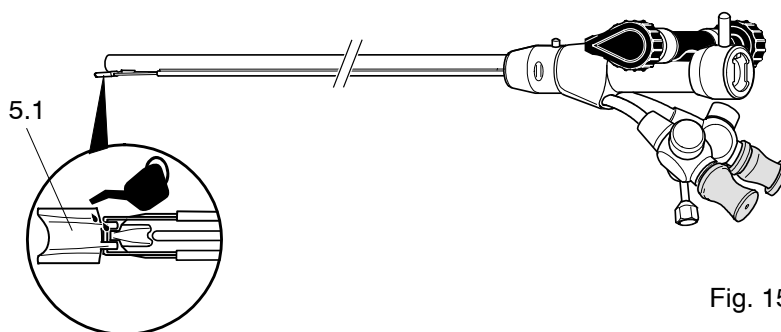

Fig. 15
- ◇ Before sterilization, oil joint of Albarran's lever (5.1) (Fig. 15)